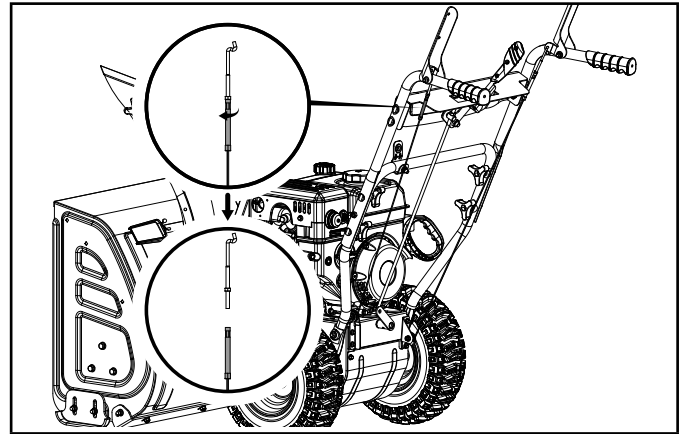

Figure 41
4. Unscrew the bolt of auger control wire (Fig. 41).